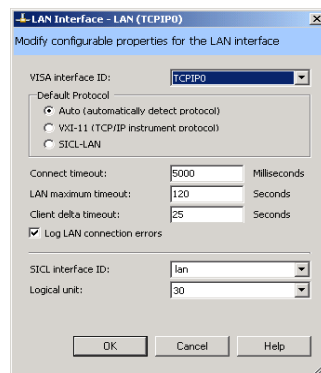

Figure 4 LAN Interface Configuration Dialog Box
- 2 Select a **LAN** interface in the explorer pane. Click the **Change Properties...** button in the properties pane. The *LAN Interface* dialog box appears, as shown in Figure 4.